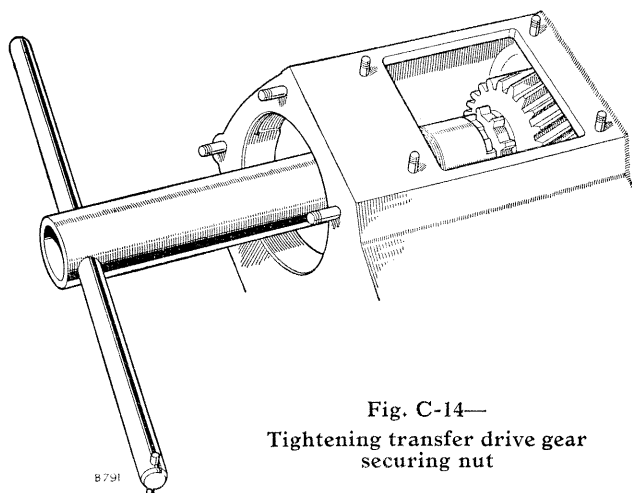

Fig. C-14—
31. Examine the distance piece for the rear end of the mainshaft, this acts also as a track for the oil seal and must be rectified or renewed if damaged in any way on its outer diameter. Place the distance piece and oil flinger over the shaft and fit the transfer drive gear with its splined flange to the rear; secure the gear with the tab washer, shim and nut using special spanner Part No. 263056 (Fig. C-14).